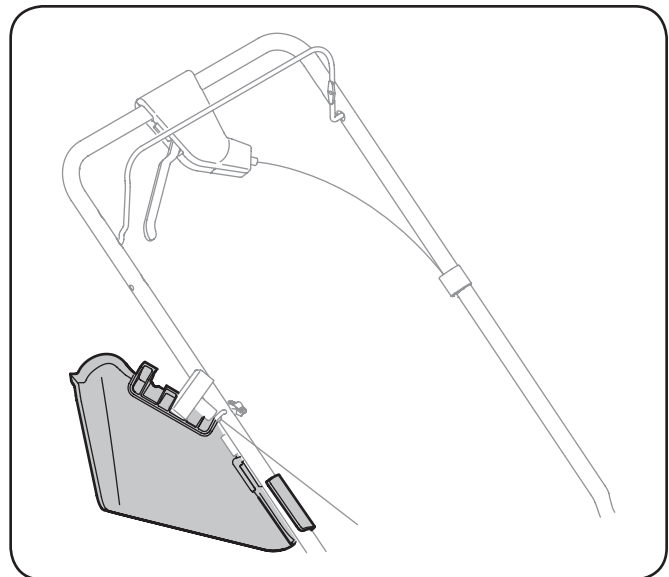

Figure 7-2
- Secure side discharge chute to handle as shown in Fig. 7-2.